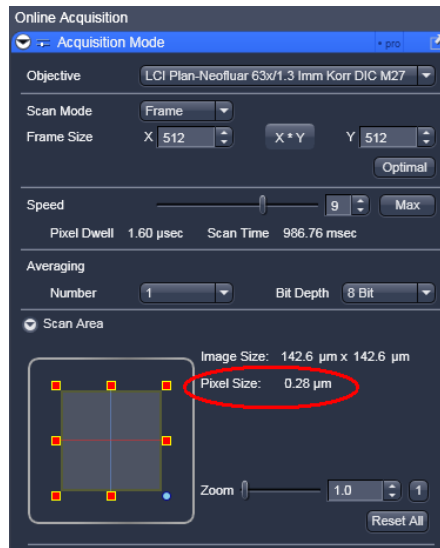

Fig. 3.10: The Image size information is shown in the online acquisition tab as indicated.
2. **LSM510 software:** If you want to change in the SymPhoTime software the x,y-axis from pixel number to dimensions in microns you need in addition to the already known number of pixels per axis also the **pixel size (in microns)**. The latter can be taken from the acquisition settings (Fig. 3.10).